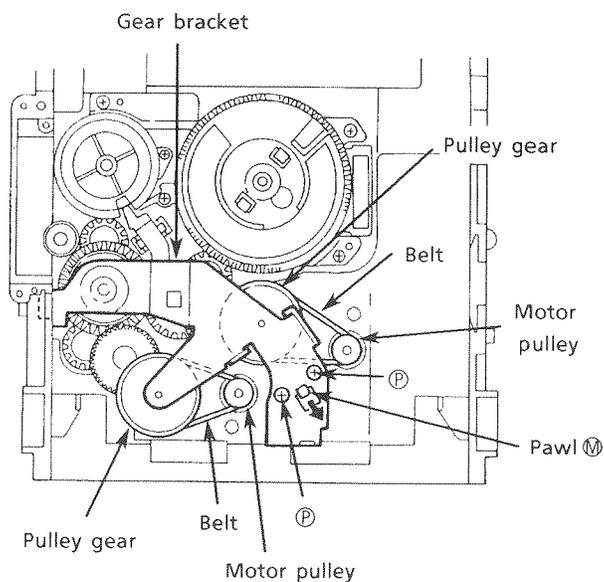

Fig. 44
1. Remove 2 screws ① securing the gear bracket. (See Fig. 44.)
2. Press the pawl ② securing the gear bracket to the arrow in the figure to remove the gear bracket. (See Fig. 44.)
4. Remove each belts from the both actuator motor pulleys and the pulley gears. (See Fig.44.)